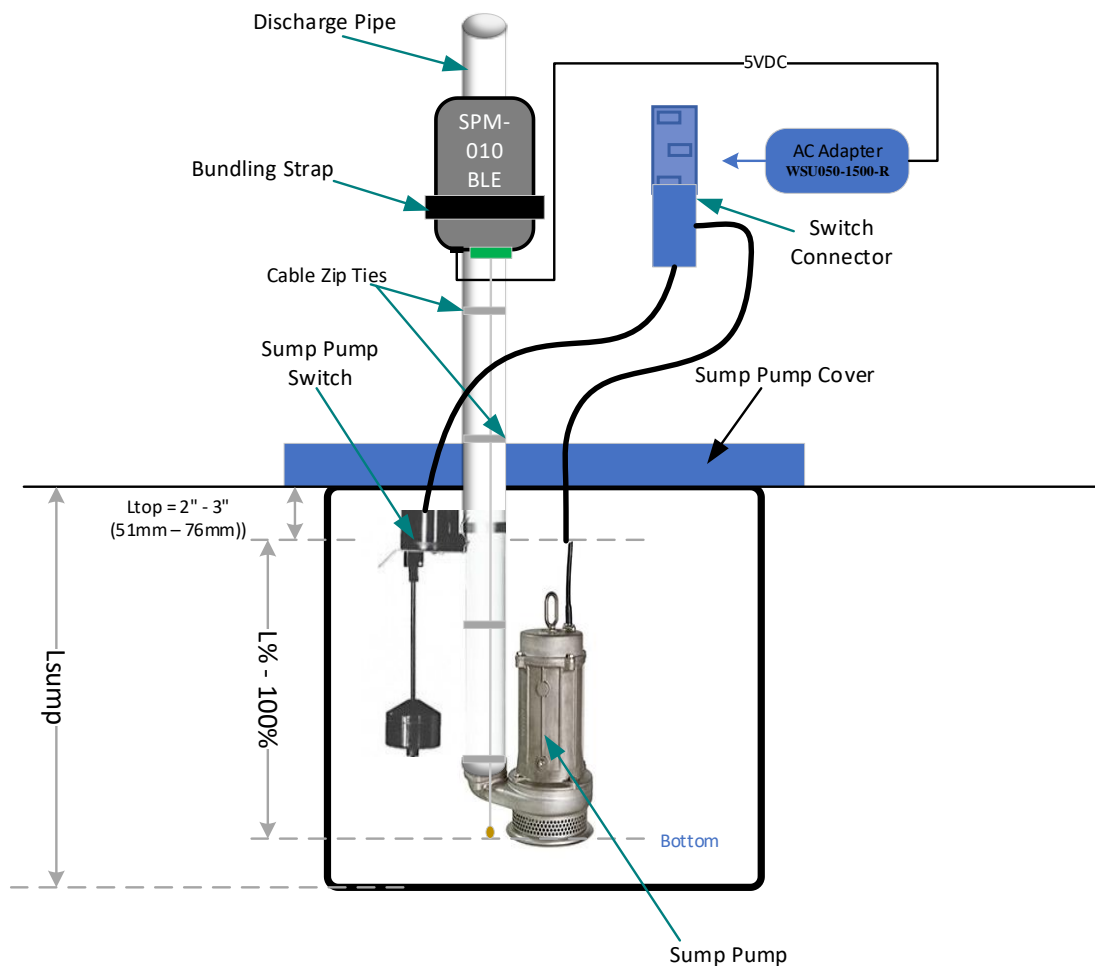

Figure 6 WS-010 Sensor Calibration Sump Depth Measurement
5. Measure the L% value (see Figure 6) and mark L% length on WS-010 sensor from bottom side by using permanent marker. It will be "L% marker" point, which is equal 100% level.